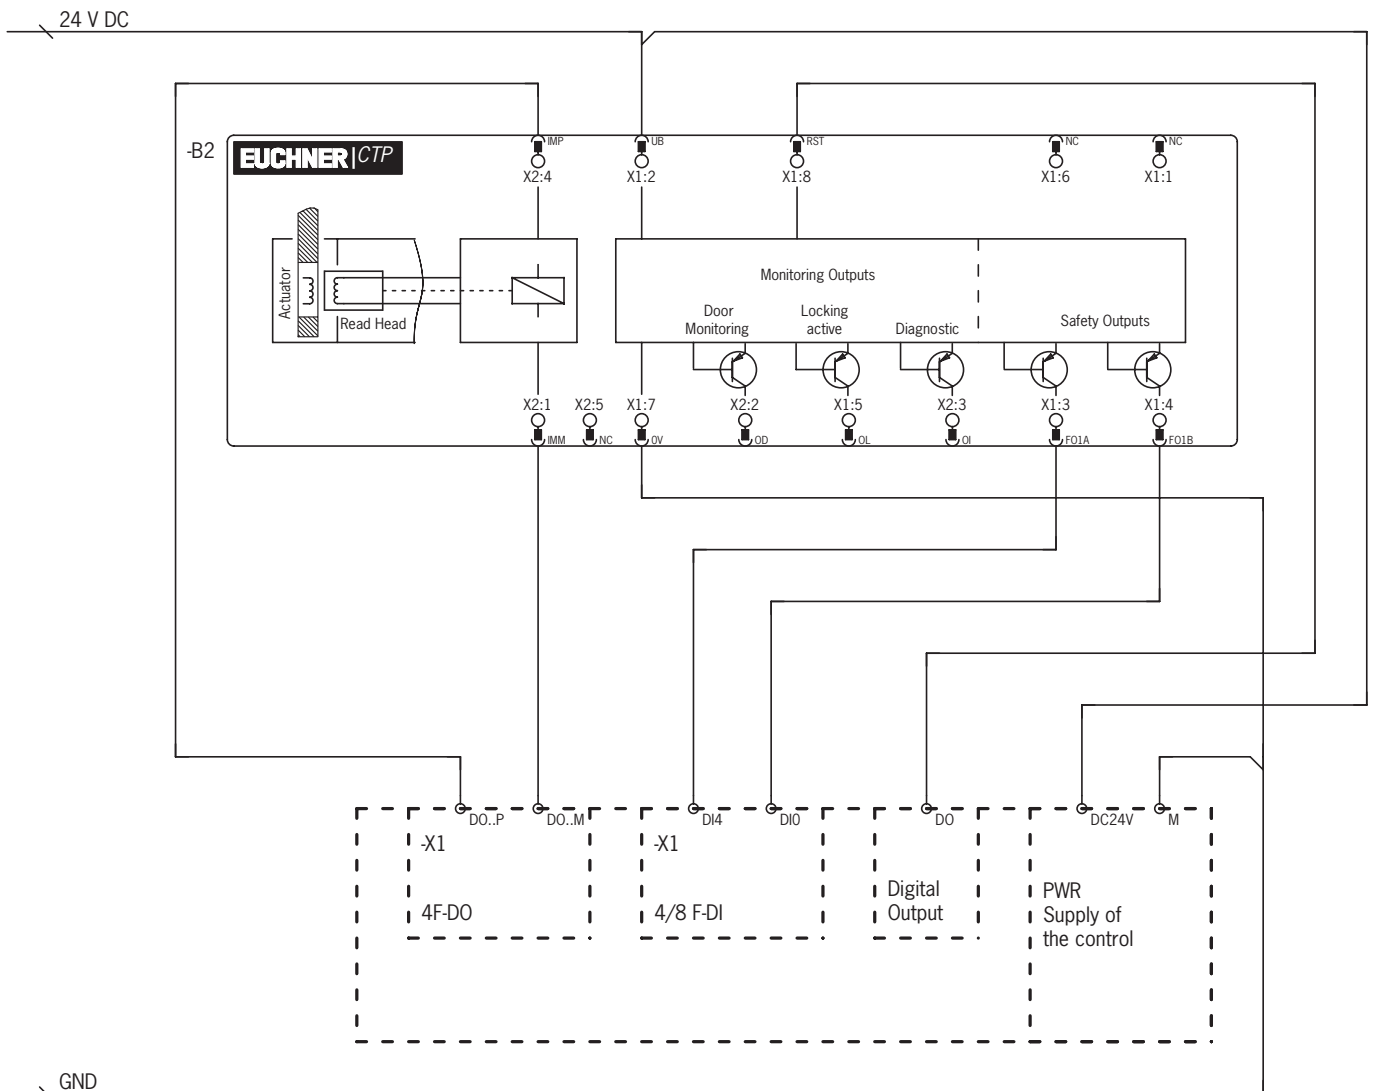

Fig. 4: Connection example for the connection to ET200
- › For dual-channel control of the solenoid voltage by safe outputs of a control system, the following points must be observed (see also Fig. 4 on page 17):